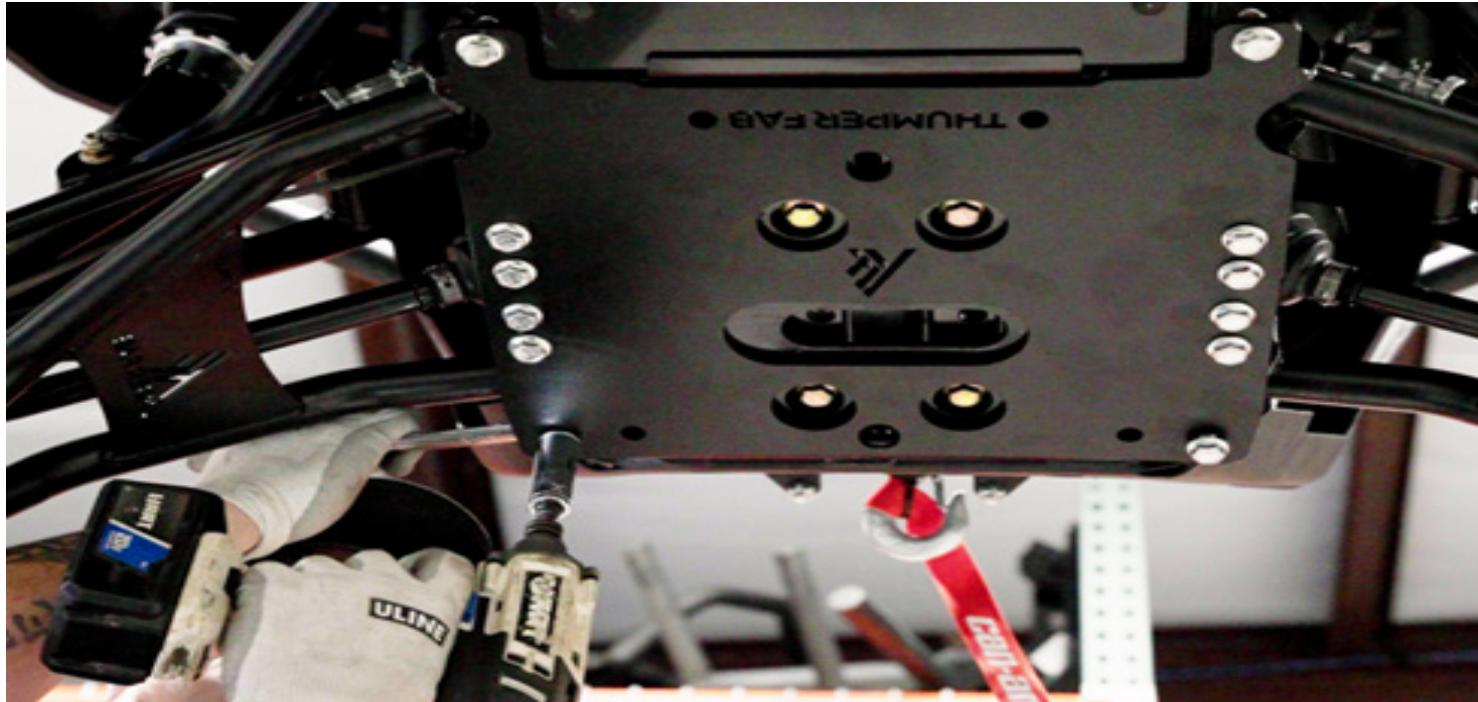

FIG 7 - Fasten M10-1.5x25mm Flange Head Bolts using 15mm Socket and 15mm Wrench
Loosley fasten the main plate to the front of the frame using 2 x M10-1.5x25mm flange head bolts (A) using 15mm socket and 15mm wrench (FIG 7).